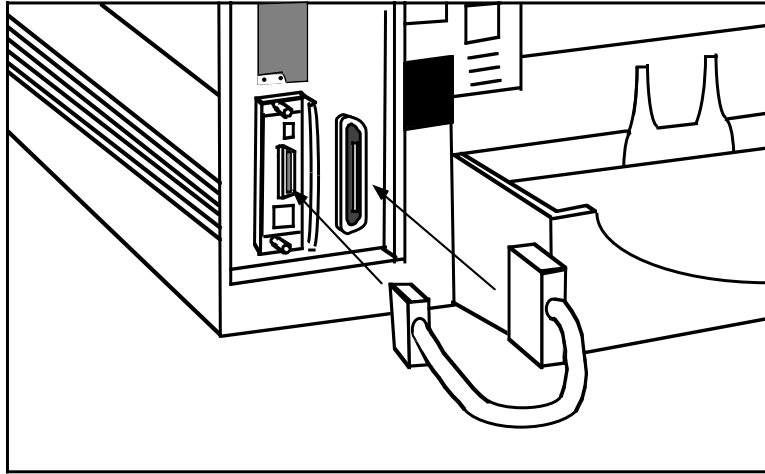

Figure 2-2
4. Connect the cable from the XJet 2000 to the printer's parallel port as shown in figure 2-2.